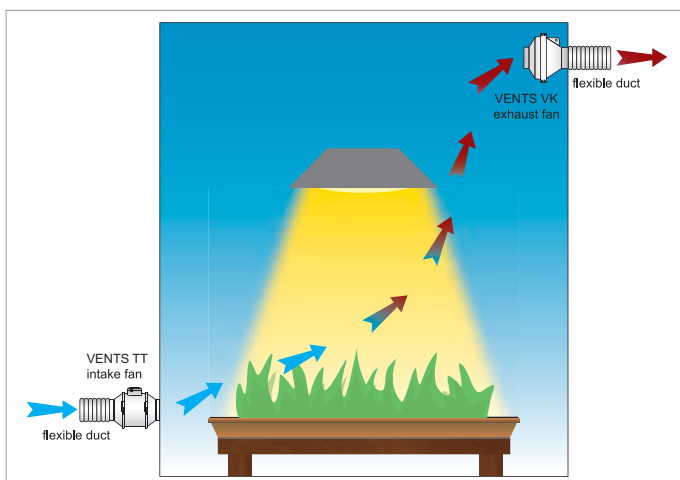

Fig. 13. Exhaust fan is to be installed diagonally opposite the intake fan for better airflow and hot&humid air removal.
1. Position your intake fan low down, diagonally opposite the exhaust. Remember, you should mount your exhaust fan high up (Fig. 13). This will allow a fresh current of cool air to flow across your grow room, whilst removing any hot, humid air at the same time. When mounting your intake and exhaust fans, use the proper brackets to avoid vibration (VENTS TT and VENTS VK fans series are supplied with mounting brackets). You may also use fan holders VENTS PTT and VENTS PVK series.